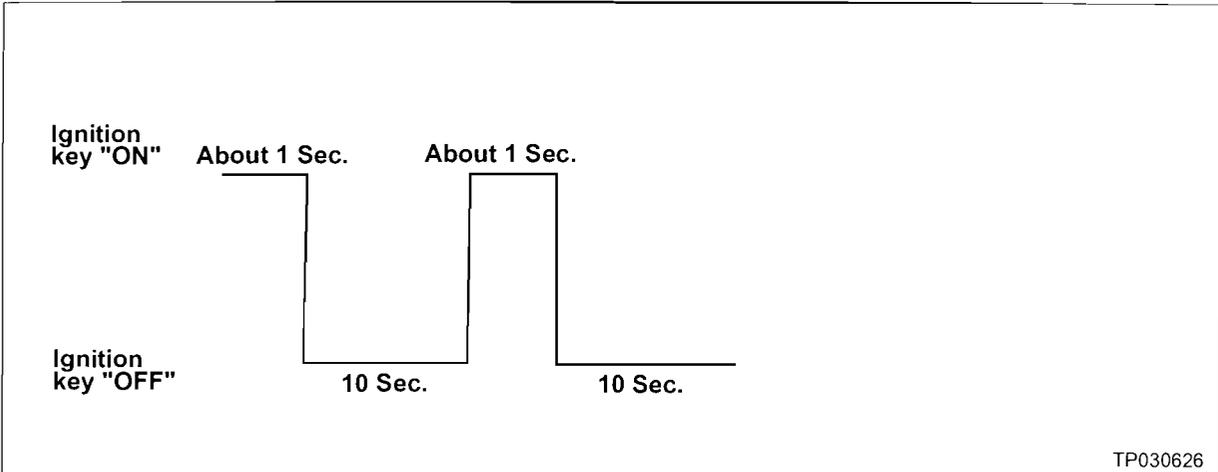

Figure 20
30. Wait more than 10 seconds, then turn the ignition switch "ON" for 1 second. Then, turn the ignition switch "OFF" again for 10 seconds (see Figure 20).